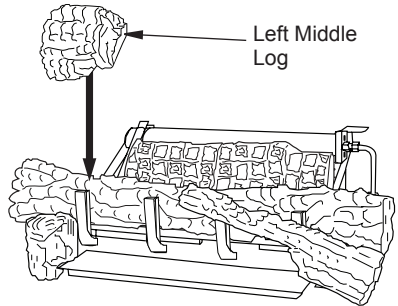

Figure 38 - Installing Left Middle Log
- The left middle log has a groove on the bottom to sit on the chassis and has to sit on the tab on the back of the left front log as shown in Figure 38.